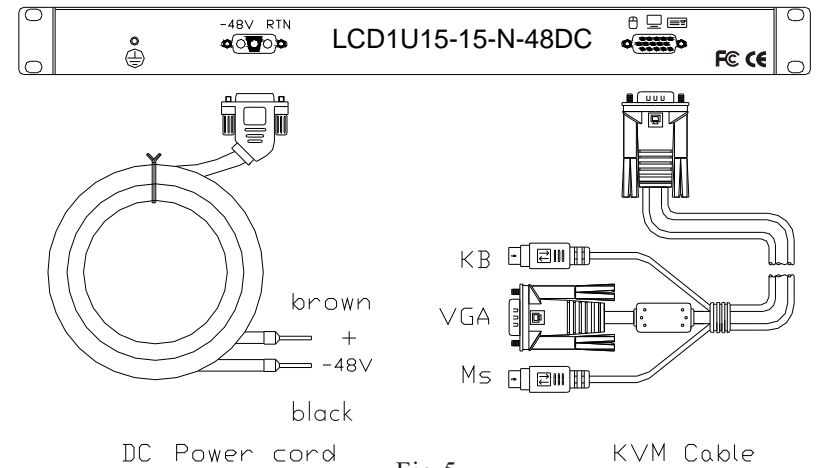

Fig.5
The KVM cable with HD-15m connector plugs in the console port. The KVM cable with VGA/KB/Mouse connectors links to computer or KVM switch. (See fig.5)
- * The DC power cord(for LCD1U15-15-N-48DC) with 3V3 connector plugs in power socket . Very carefully to connect -48VDC source,The power cord with black pin is connected to-48VDC in ,brown pin is connectedto + .(see fig.5)